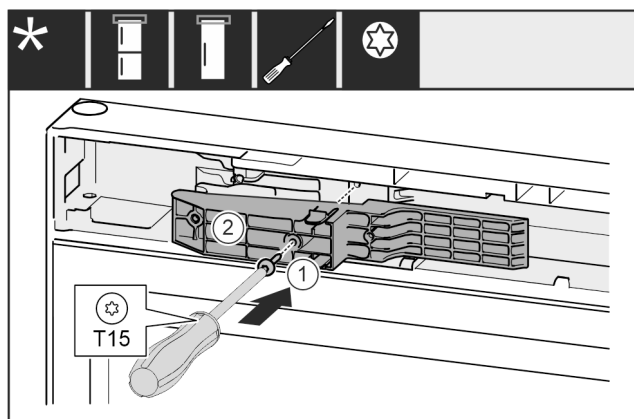

Fig. 36
- ▶ Insert adapter Fig. 36 (1) in the recess on the handle side.
- ▶ Tighten screw Fig. 36 (2) with screwdriver.